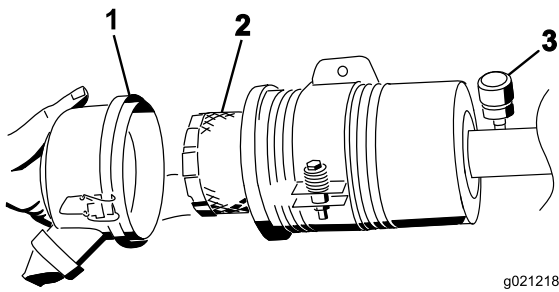

Figure 42
3. Remove and replace the filter (Figure 42).